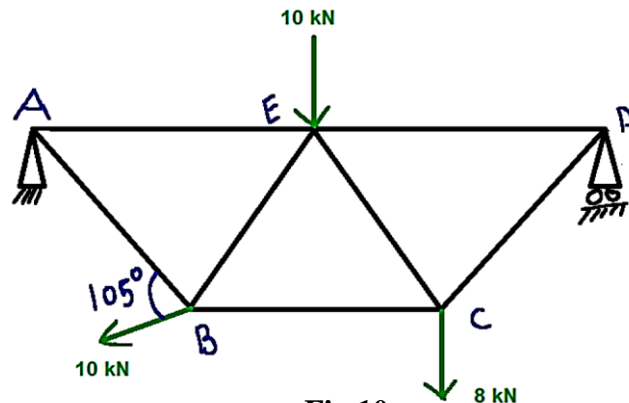

Fig.10
- (Q.10) A truss having the length of each member 4 m is loaded as shown in Fig.10. (a) Compute the internal force of all the members of truss using **Method of Joints**. (b) Compute the internal force in member BE of the truss using **Method of Section**. (5+2=7 Marks)